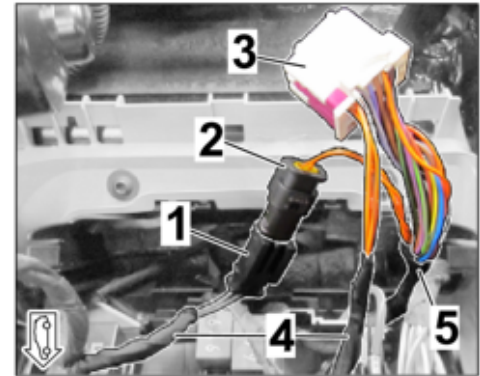

Figure 30
2.5.5 Change pin assignment of lines OG/BN / OG/BK in the connector (17-pin, white) as follows (\Rightarrow Figure 30):
Control CAN drive LOW = OG/BN; 0.35 ²	Socket \Rightarrow insert into chamber 13 of connector (17-pin, white \Rightarrow Figure 30 -3-)
Control CAN drive HIGH = OG/BK; 0.35 ²	Socket \Rightarrow insert into chamber 14 of connector (17-pin, white \Rightarrow Figure 30 -3-)
2.5.7 Connect plug connection (2-pin) (\Rightarrow Figure 30 -1 & 2-).